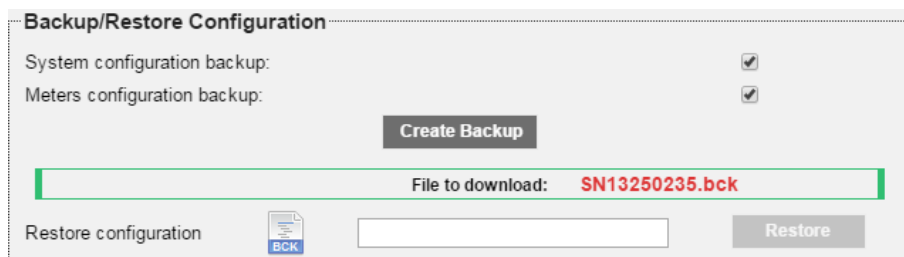

Figure 23 - Creating a backup
- System Configuration Backup: select if you want to create a system backup. Press Create Backup to complete the operation. See Figure 23
- Meter Configuration Backup: select if you want to create a meter configuration backup. Press Create Backup to complete the operation See Figure 23